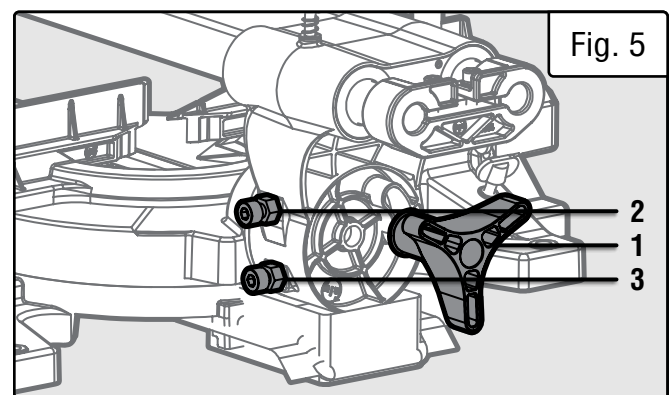

Fig. 5
1. As viewed from the rear of the saw, loosen the bevel lock knob (Fig. 5 - 1).
2. The saw is equipped with two bevel adjustment bolts to provide positive stops at specific bevel angles. The top bolt (Fig. 5 - 2) provides a positive bevel angle stop at 45-degrees. The bottom bolt (Fig. 5 - 3) provides a positive bevel angle stop at 0-degrees.